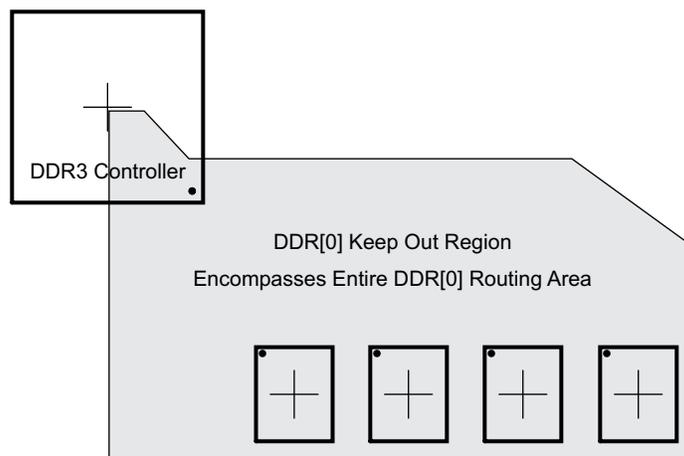

Figure 8-59. DDR3 Keepout Region
- (2) Measurements from center of processor to center of DDR3 device.
- (3) Minimizing X1 and Y improves timing margins.
- (4) w is defined as the signal trace width.
- (5) Non-DDR3 signals allowed within DDR3 keepout region provided they are separated from DDR3 routing layers by a ground plane.
The region of the PCB used for DDR3 circuitry must be isolated from other signals. The DDR3 keepout region is defined for this purpose and is shown in Figure 8-59. The size of this region varies with the placement and DDR routing. Additional clearances required for the keepout region are shown in Table 8-65. Non-DDR3 signals should not be routed on the DDR signal layers within the DDR3 keepout region. Non-DDR3 signals may be routed in the region, provided they are routed on layers separated from the DDR signal layers by a ground layer. No breaks should be allowed in the reference ground layers in this region. In addition, the 1.35-V/1.5-V DDR3L/DDR3 power plane should cover the entire keepout region. Also note that the DDR3 controller's signals should be separated from each other by the specification in item 5 (see Table 8-65 for item 5 specification).